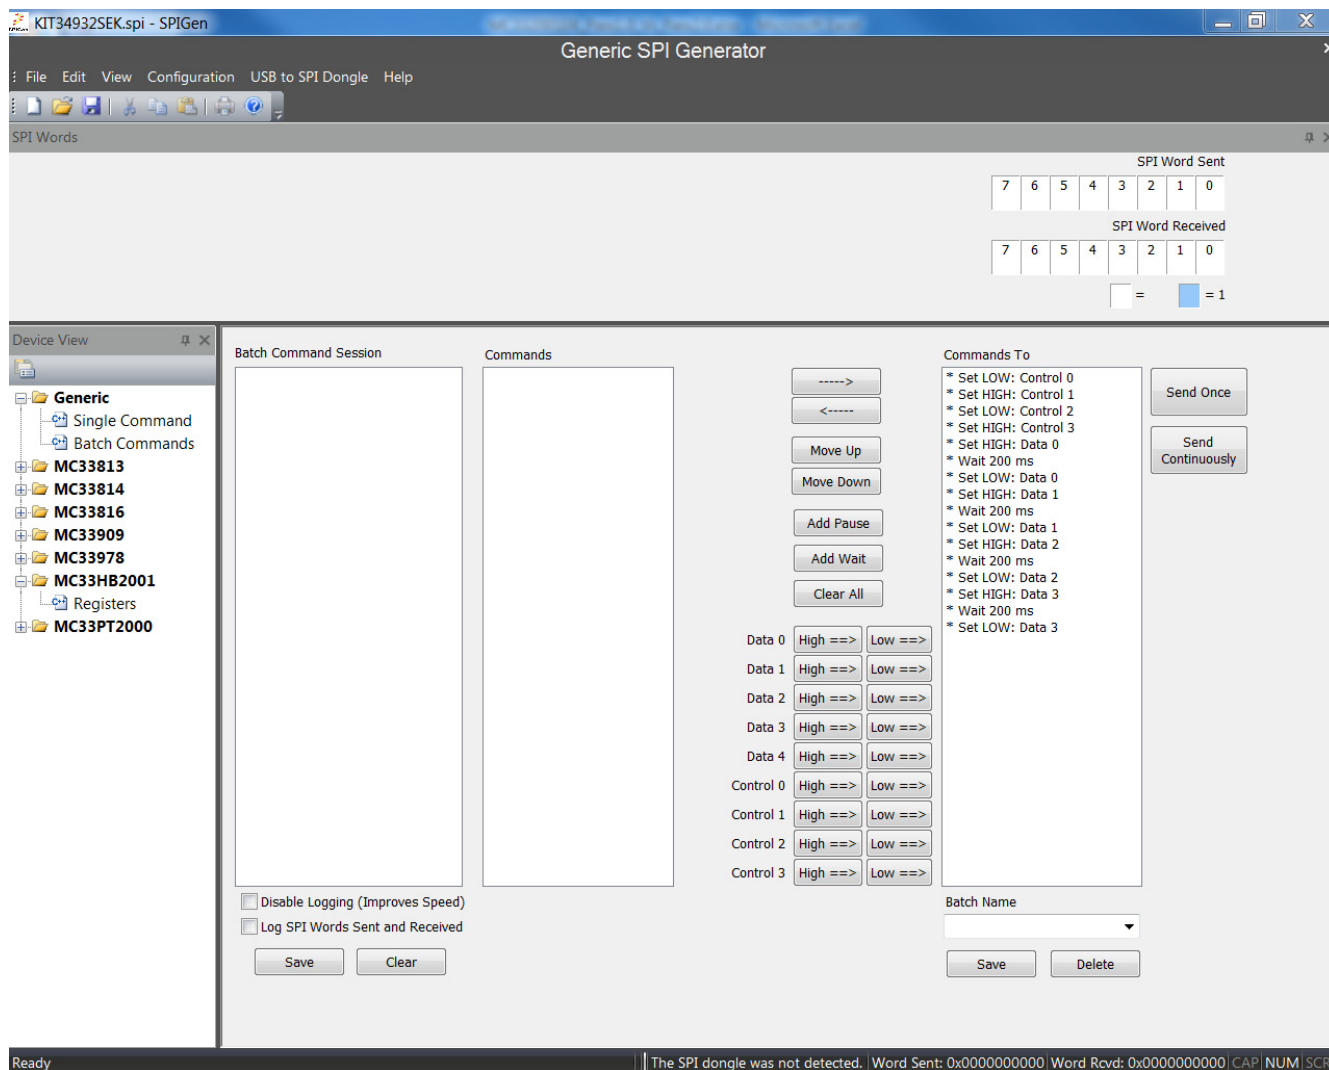

Figure 8. SPIGen GUI
2. From the SPIGen menu bar, click on FILE>Open and select the configuration file “KIT34932EKSW.spi” (previously downloaded in Section 5.1.) Figure 8 shows SPIGen screen with the configuration file installed.